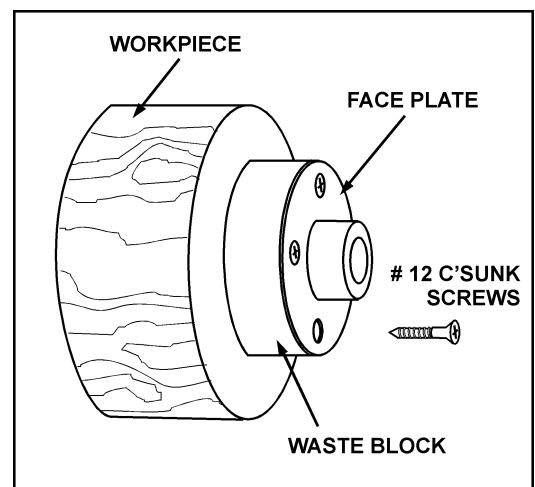

FIGURE 9
5. Make a block the same diameter as the face plate, Figure 9. Both glue block and workpiece should have good flat surfaces for gluing.